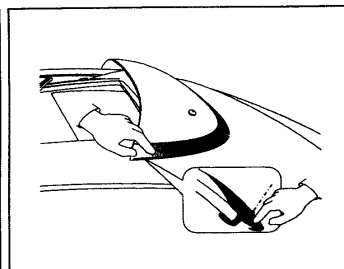

Figure 8. Gasket curl correction
7. Firmly press down onto gasket and slide along deflector edge to correct gasket curl (see figure 8).